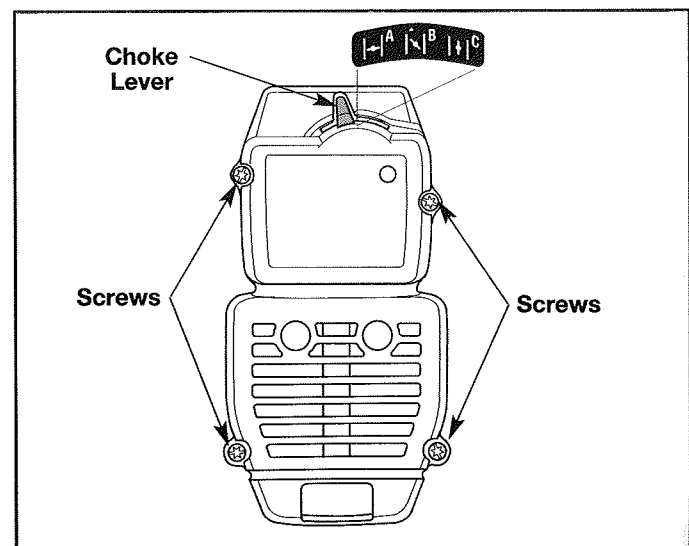

Fig. 23
1. Place the choke lever in the PARTIAL choke position (B).
**NOTE:** The choke lever must be in the PARTIAL choke position (B) (Fig. 23) to remove the air filter/muffler cover.
2. Remove the four (4) screws securing the air filter/muffler cover (Fig. 23). Use a flat blade or T-20 Torx bit screwdriver.
**NOTE:** The choke lever must be in the PARTIAL choke position (B) (Fig. 23) to install the air filter/muffler cover.
2. Insert the four (4) screws into the holes in the air filter/muffler cover (Fig. 23) and tighten. Use a flat blade or T-20 Torx bit screwdriver. Do not over tighten. Do not force.